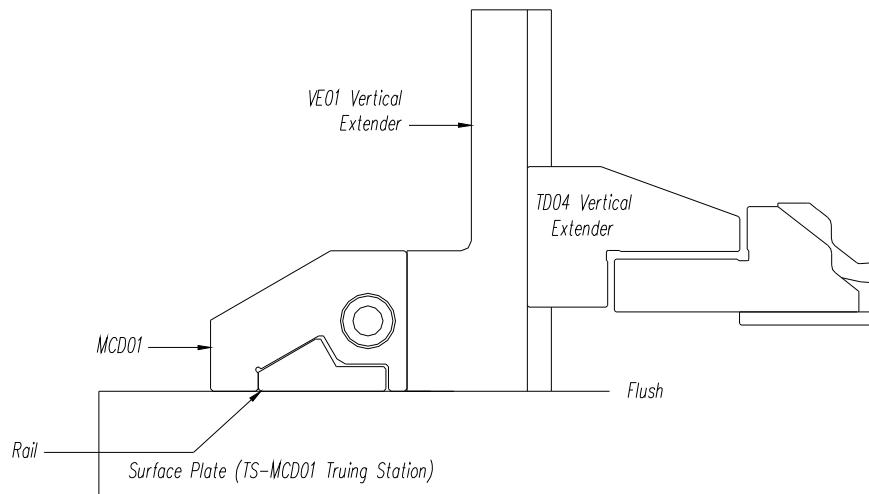

Figure 3
STEP 4. Attach the work holder/TD04 to the VE01 vertical extender at the desired height as shown in Fig. 3.